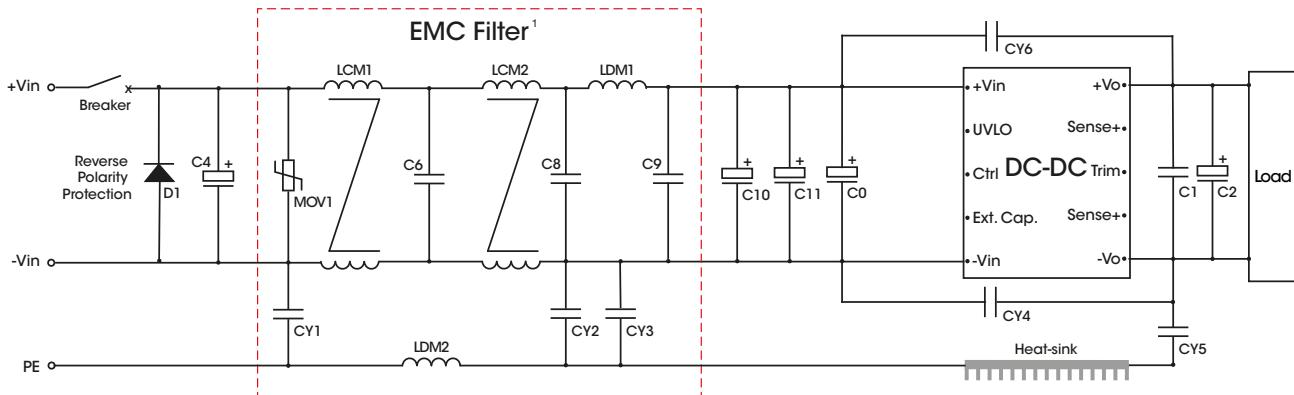

Figure 8. Recommended EMC Filtering
RE CISPR16-2-3 30 MHz – 230 MHz ; 40 dBuV/m at 10 m (see Fig. 8 for recommended circuit) 230 MHz – 6 GHz; 47 dBuV/m at 10 m (see Fig. 8 for recommended circuit)	CLASS A
Surge EN 61000-4-5 Line to line ±1 kV (42 Ω, 0.5 μF), line to ground ± 2 kV (42 Ω, 0.5 μF) (see Fig. 8 for recommended circuit) Line to line ±1 kV (2 Ω, 18 μF) line to ground ± 2kV (12 Ω, 9 μF) (see Fig. 8 for recommended circuit)	perf. Criteria A
RE CISPR16-2-3 30 MHz – 230 MHz; 40 dBuV/m at 10 m (see Fig. 8 for recommended circuit) 230 MHz – 1 GHz; 47 dBuV/m at 10 m (see Fig. 8 for recommended circuit)	CLASS A
Surge IEC 61000-4-5 Line to line ±2 kV (2 Ω, 18 μF); line to ground ± 2 kV (2 Ω, 18 μF) (see Fig. 8 for recommended circuit)	perf. Criteria A
MS IEC 61000-4-8 60 Hz; 100 A/m (see Fig. 8 for recommended circuit) IEC 61000-4-8 60 Hz; 300 A/m (see Fig. 8 for recommended circuit)	perf. Criteria A
- EMC Filter will be provided in a modular form, here is a recommended circuit and parameters, as shown in Fig. 8. Users can also build it themselves.